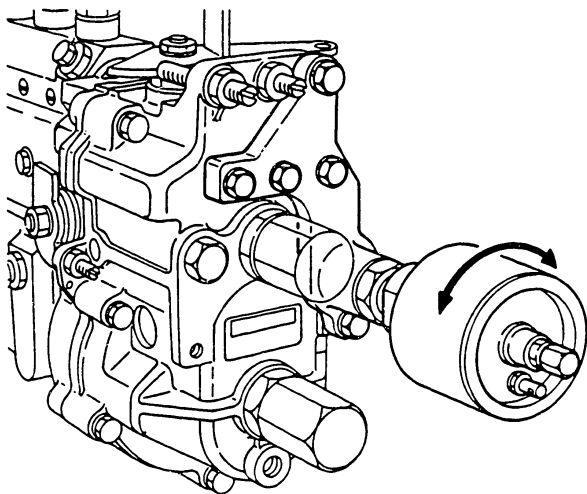

Fig. 173 Adjusting control rack position
- 1) In this condition, "supply negative pressure"  $P_1$  mmHg to the aneroid compensator's atmospheric chamber. Rotate the aneroid compensator housing to adjust the control rack position to  $R_1$  mm. Check that fuel injection quantity  $Q_1$  cc/1000 st is obtained at this point. (Figs. 173 and 174)